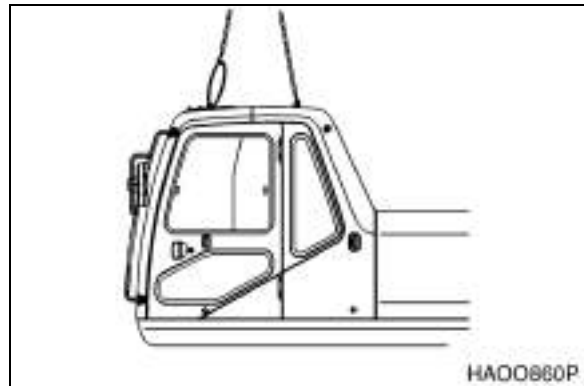

Figure 5
20. Using a suitable lifting device, attach slings to four lift points on top of cab (Figure 5).
1. Using a suitable lifting device, attach slings to four lift points on top of cab (Figure 5).